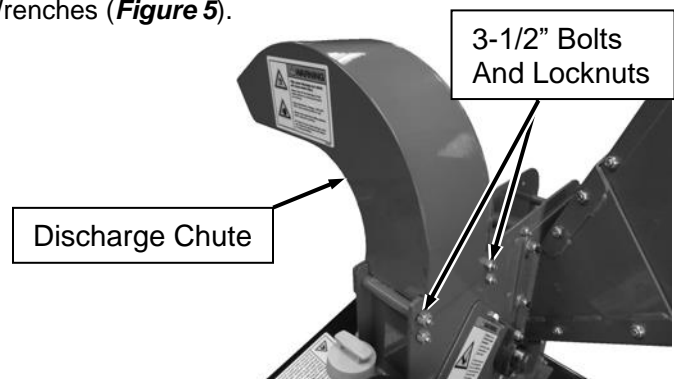

Figure 5
1. Position the Discharge Chute facing away from the Hopper Assembly as shown and secure with two 3-1/2" long Bolts and Locknuts using two 1/2" Wrenches (Figure 5).